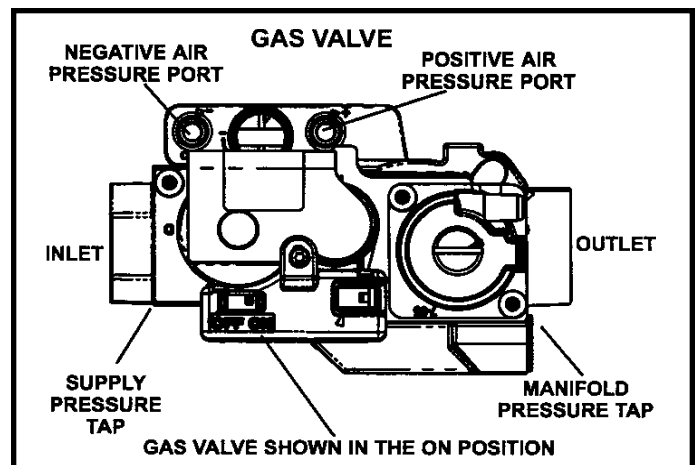

Figure 48
Gas Valve Operation (Figure 48)
6. Move the gas valve switch to the **OFF** position. See Figure 48.
8. Move gas valve switch to the **ON** position. See Figure 48. **DO NOT** force.